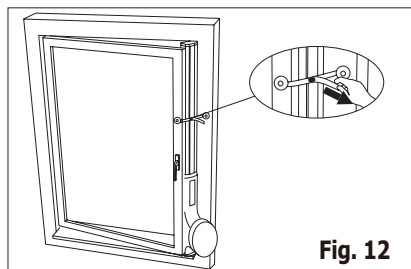

Fig. 12
3. Press back the locking lever to fix the length of the window slider kit, then close the window and pinch the window kit between the window and the window frame, to secure the window kit, peel off the protect film in the back of the tabs of the anchor and attach on the window frame, then fasten the strap (Fig. 12).